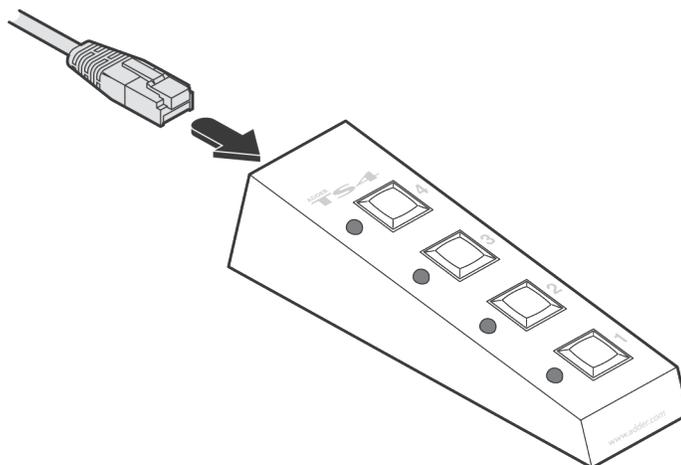

FIGURE 3-13. CONNECTING CABLE TO REMOTE CONTROL SOCKET
1. Connect either end of the supplied cable to the socket at the rear of the remote control. See Figure 3-13.